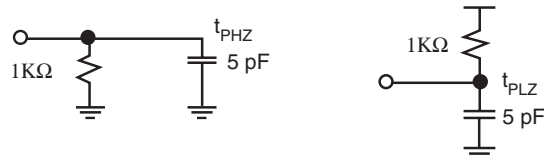

Figure 2: Loads used for  $t_{PXZ}$
a. The loads presented in **Figure 2** are used for  $t_{PXZ}$ :